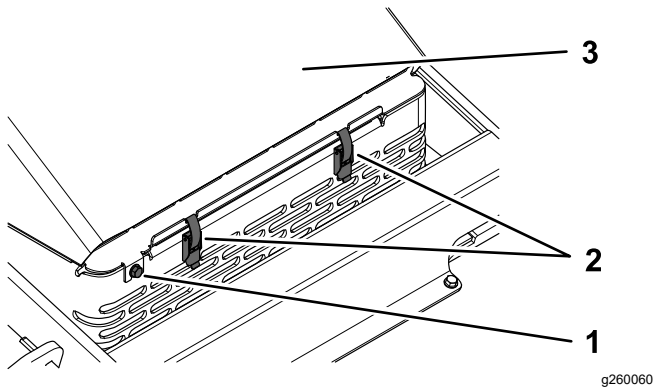

Figure 35
3. Loosen the hood-locking screw (Figure 35).
4. Hold the hood down and release the 2 latches (Figure 35).
5. Lift open the hood (Figure 35).
2. Tighten the hood-locking screw (Figure 35).